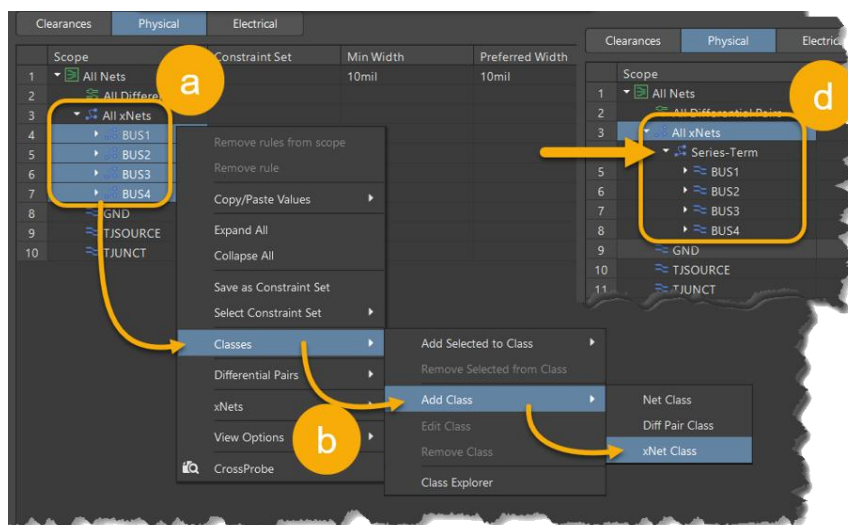

Figure 5. Create xNet Class – Figure A, B, D
19. Change the *Constraint Manager* view to the *Physical* Physical view, Figure 5.